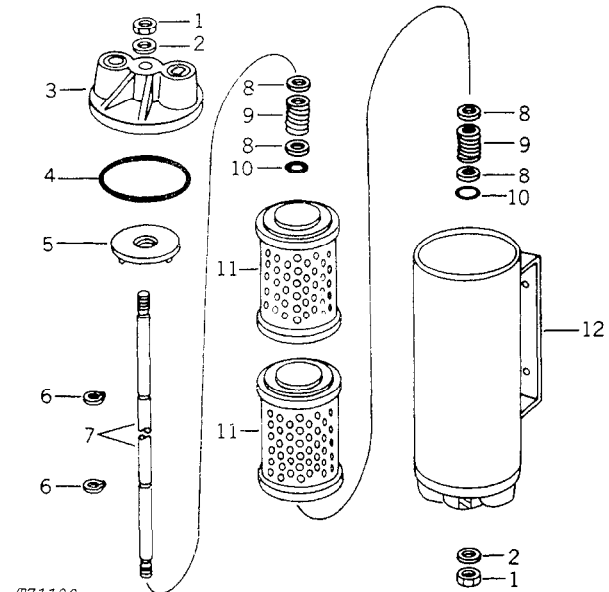

Fig. 11-Hydraulic Filter Assembly
7 - Remove nut (1, Fig. 11) from top end of filter rod (7) and lift off filter end cover (3).